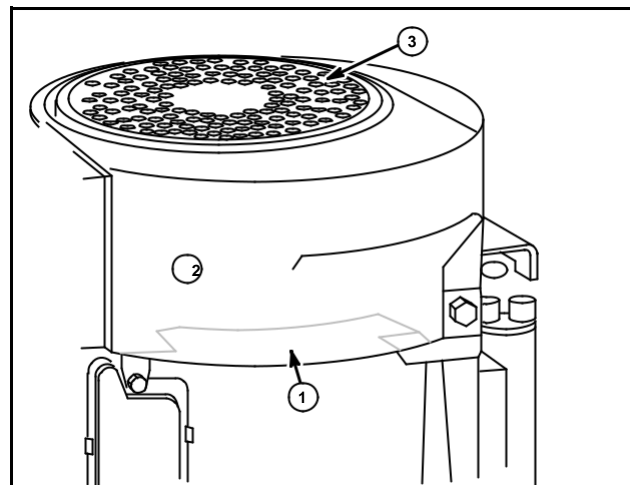

Fig. 123
Install rotating screen (3) and blower housing (2) on engine. Tighten screws. Note location of blower housing guard (1), Fig. 123.